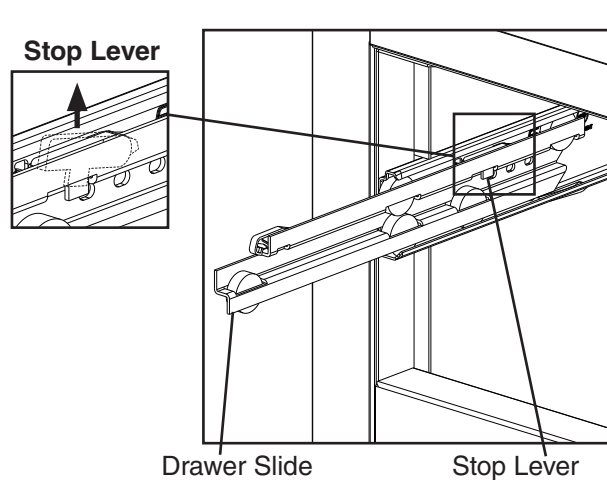

Fig. 39
- **To remove a drawer slide (center slide containing rollers):** Push up on the stop lever while pulling on the drawer slide. See Fig. 39. Drawer slides do not require lubrication, but drawer slides should be kept clean and free of food.